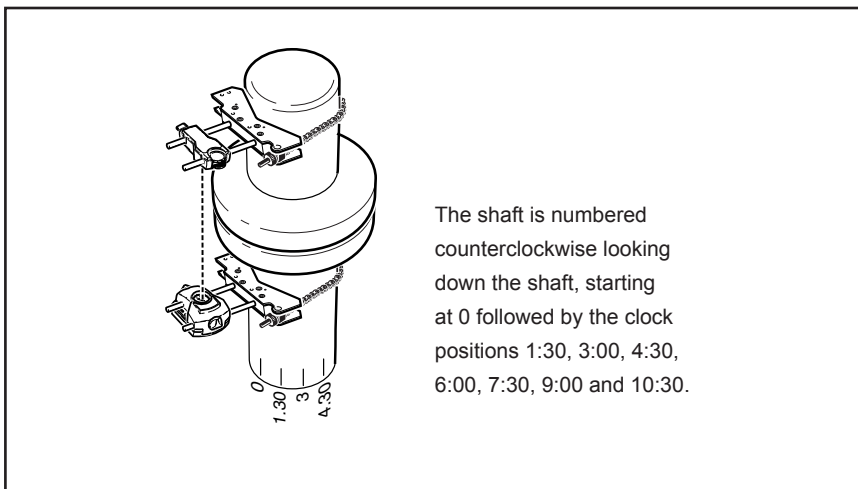

Figure 9-2. Numbering the shaft
3. Use this distance to make seven more evenly-spaced marks on the shaft beginning at your chosen start point. Number the points counterclockwise as seen from prism to sensor, beginning with 0 first, followed by 1:30, 3:00, 4:30, 6:00, 7:30, 9:00 and 10:30. (Refer to Figure 9-2.)